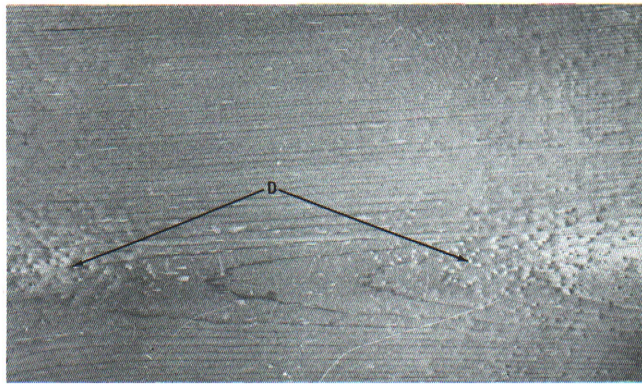
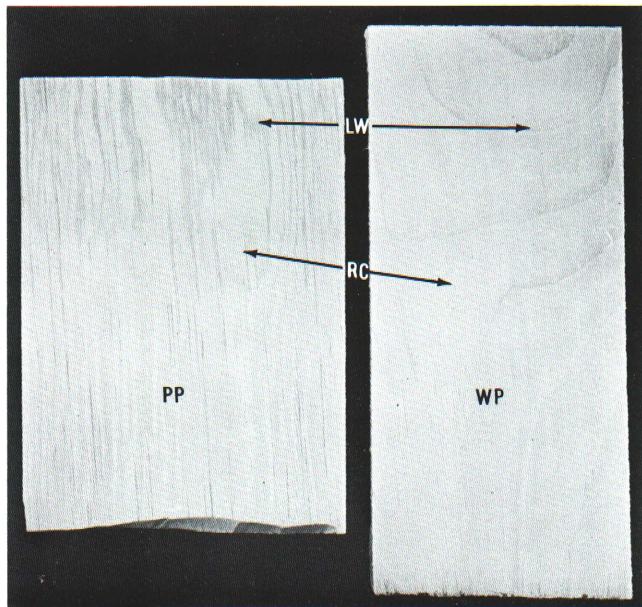

Figure 12—Dimpled ponderosa pine, D. Some spruces are also dimpled but do not have as distinct resin canals.
Figure 13—Ponderosa pine PP with resin canals, RC, and more distinct latewood, LW. White pine, WP, with less distinct resin canals and latewood.
5. Latewood distinct, sharp boundary with earlywood in the same growth ring, latewood clearly contrasted on tangential surface, Figure 13. Wood frequently dimpled (appear as indentations) Figure 12. Resin canals appear as pale dots, not holes, on cross section ..... **Ponderosa pine**
6. Resin canals smaller and less numerous, not as prominent on radial or tangential surfaces, Fig. 13. .... **Western or Eastern White pine**